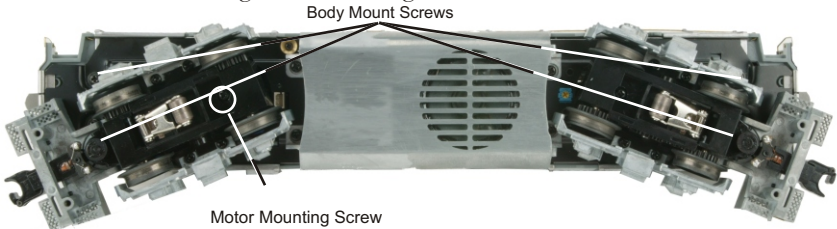

Figure 6. Body Removal Screw Locations
1. To access the gear box, remove the cab from the chassis by unscrewing the body mount screws as seen in Figure 6 and lifting the cab from the chassis.
2. Once the cab is removed, remove the trucks by unscrewing the black Phillips motor mount screw located on the underside of the drive trucks (see Fig. 6).
If you experience poor or no smoke output when the smoke unit is on and has fluid, check the wick to see if it has become hard, blackened, and unabsorbent around the heating element. After removing the locomotive body from its chassis (See Figure 6), remove the smoke unit inspection cover (see Fig 11). After removing the inspection cover screws, lift the inspection plate away and inspect the wick. If it is darkly discolored and hard, it should be replaced.